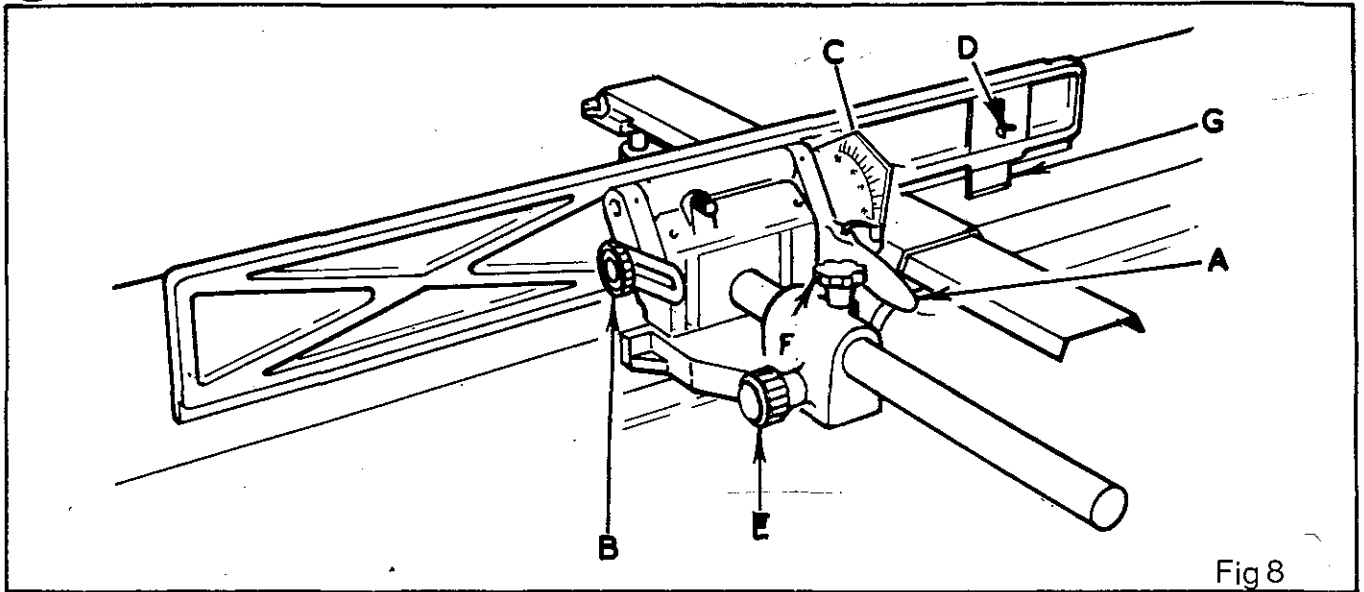
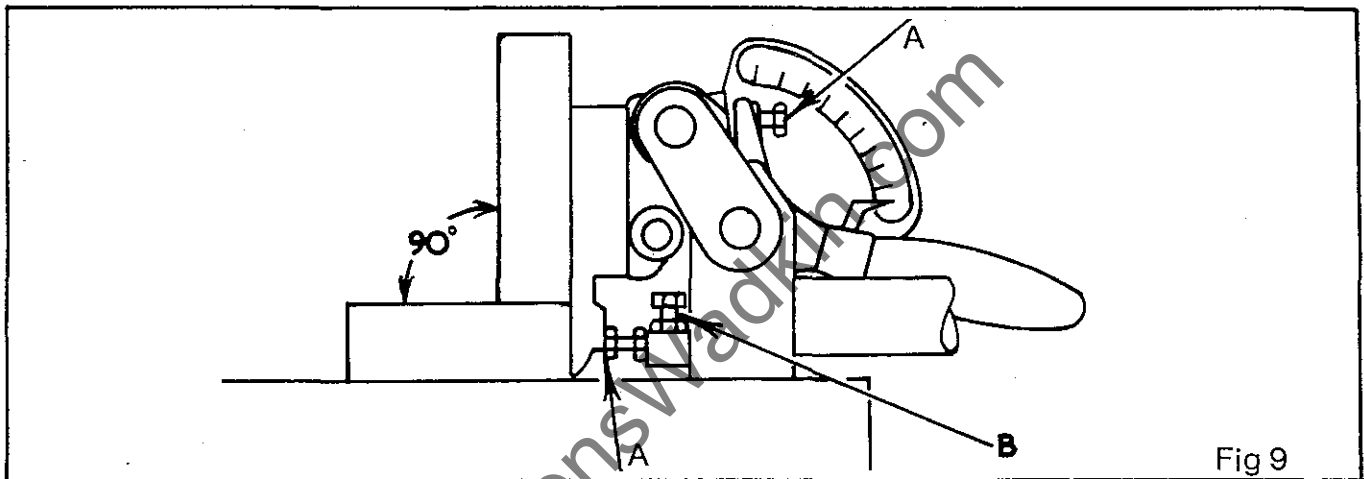

Fig 8
Fig 9
The fence cants by means of a single lever "A" in Fig. 8 to  $45^{\circ}$ . The angle to which the fence is canted is shown on a graduated scale "C".
1. Move the fence towards the rear of the table as shown in Fig. 9
2. Check the  $90^{\circ}$  positive stops by means of a steel square as shown in Fig. 9. If adjustment is necessary, adjust the hexagon head bolts "A" until the fence is at right angles to the table when hard up against the stops and the handwheel "B", in Fig. 8 locked.
3. Check the  $45^{\circ}$  positive stop by means of an adjustable square. If adjustment is necessary, adjust the socket head grub screw "B" until the fence is  $45^{\circ}$  to the table when hard up against the stop and the handwheel "B" in Fig. 8 locked.